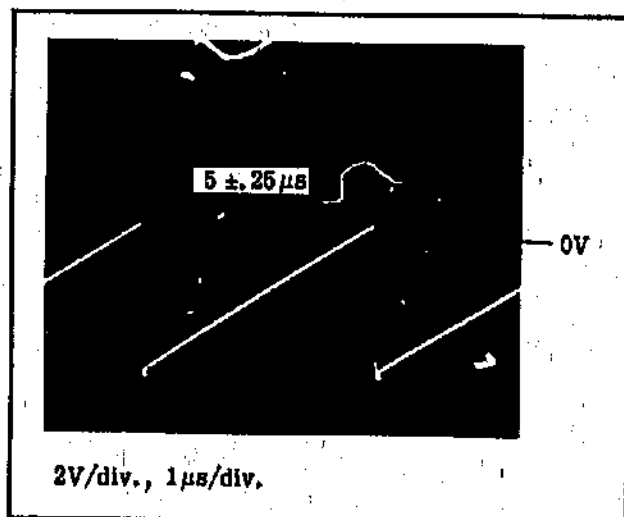

Figure 5-10. Multiplier Clock Waveform at A2TP2 and A2TP5.
- b. Connect oscilloscope to A2TP2 (see Figure 5-12) and adjust period of sawtooth on oscilloscope for  $5 \pm .25\mu\text{s}$  ( $5 \pm .25$  divisions) as shown in Figure 5-10 with A2R48 (Clock Adj.-- C side).